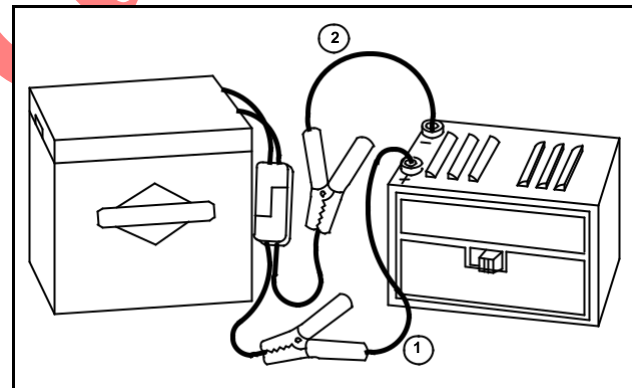

Fig. 10
1. Attach red (1) positive charger lead to positive battery connector terminal, Fig. 10.
2. Attach black (2) negative charger lead to negative battery connector terminal.